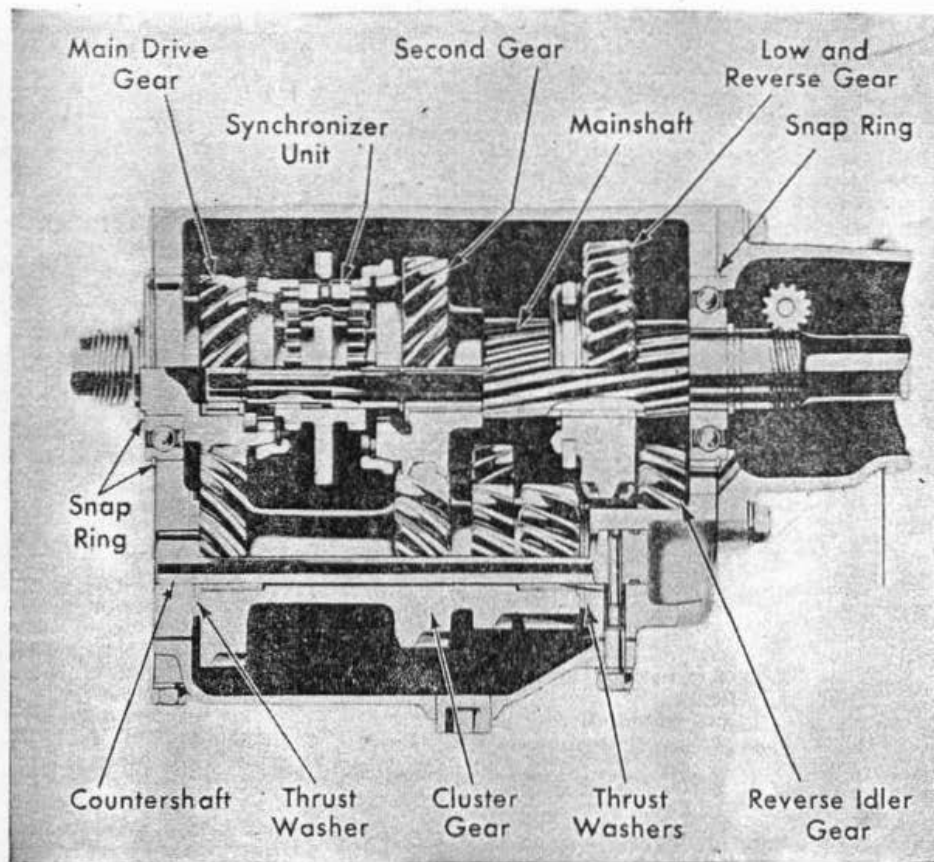

Fig. 27 Standard transmission. 1940-53 (Not used on 1954)
1. Remove bottom cover, Fig. 27.